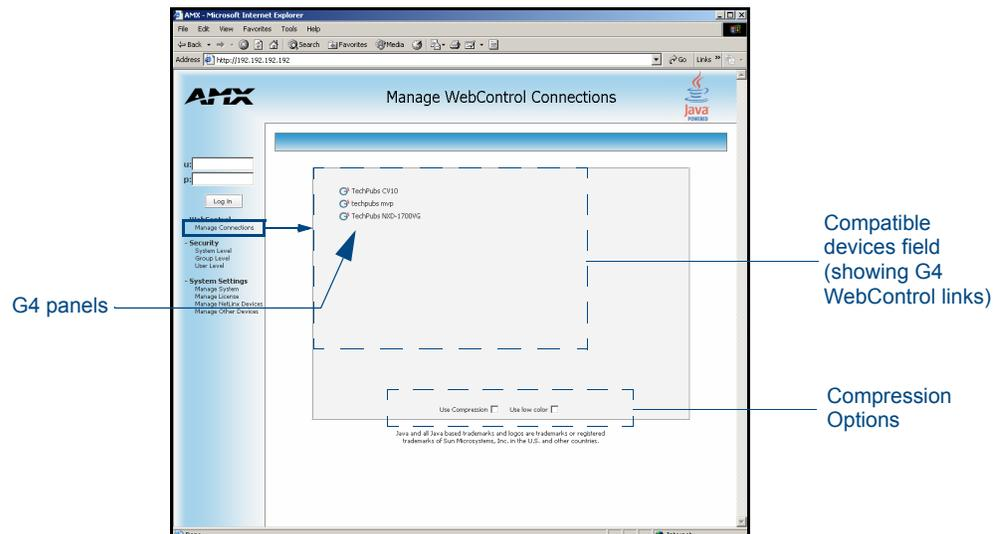

FIG. 76 Manage WebControl Connections page (populated with compatible panels)
7. This Manage WebControl Connections page (FIG. 76) is accessed by clicking on the **Manage connections** link (*within the Web Control section within the Navigation frame*). Once activated, this page displays links to G4 panels running the latest G4 Web Control feature (*previously setup and activated on the panel*).